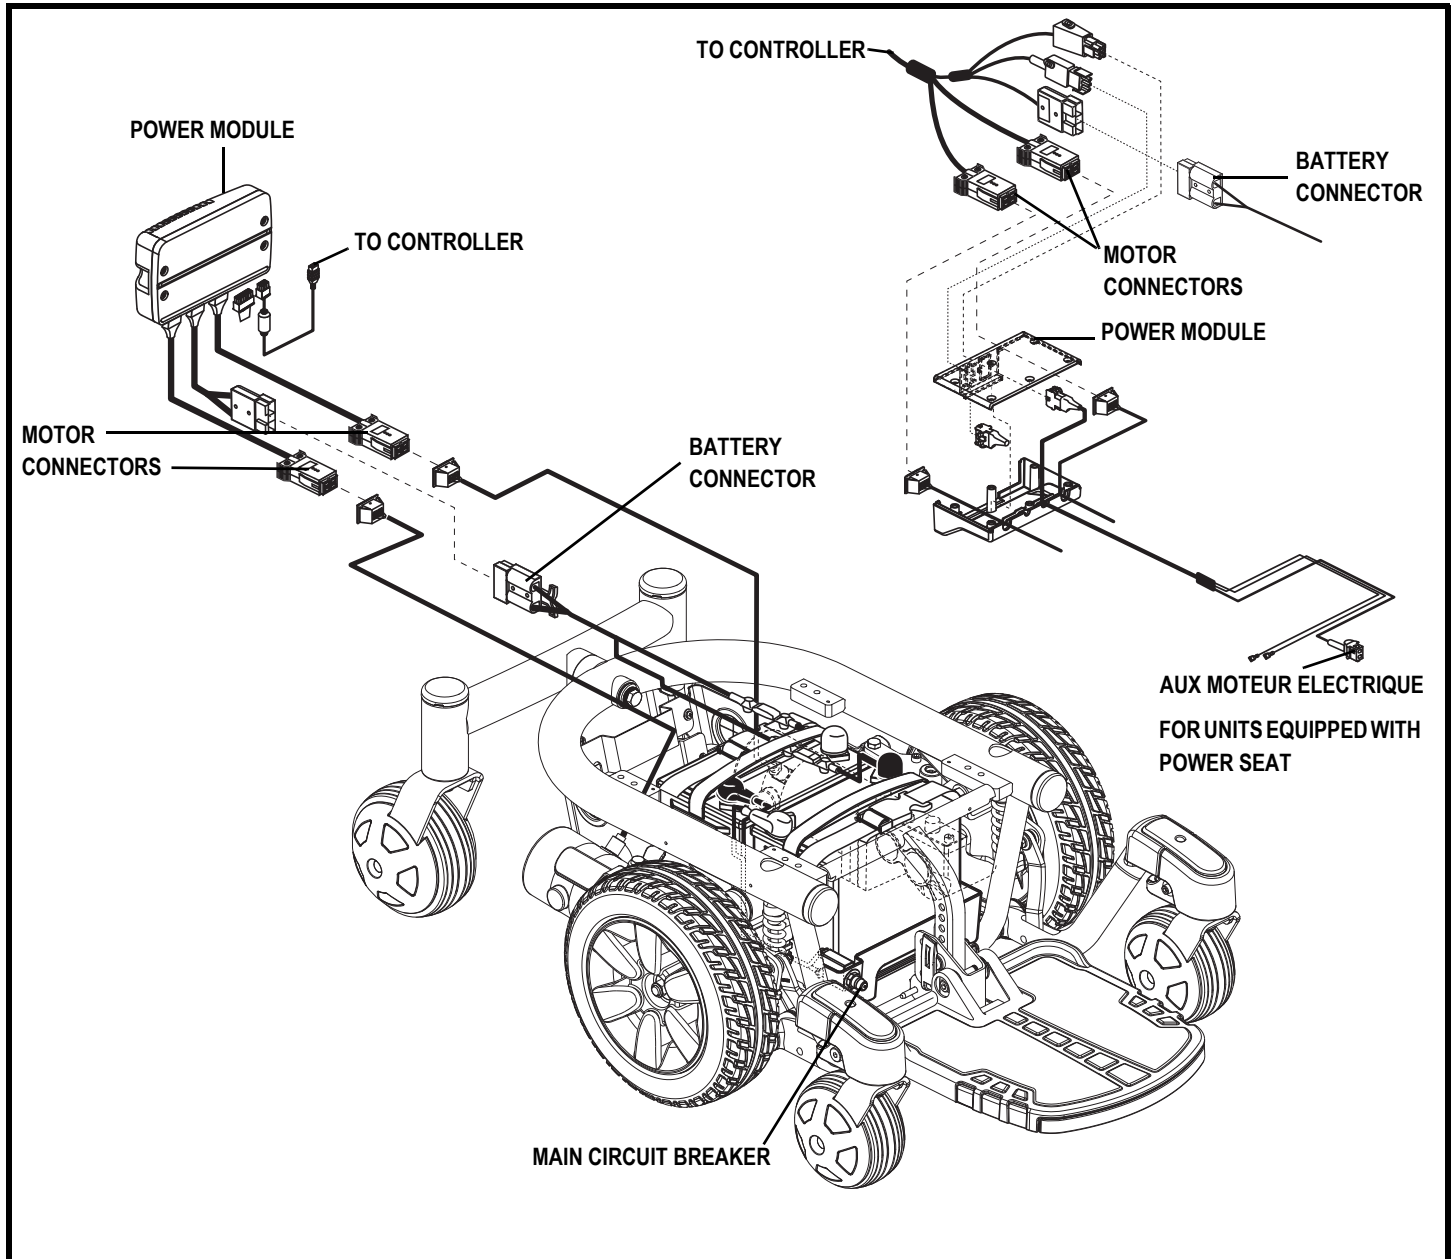

Figure 7. J6 Electrical Components
The electrical components are located inside the power base. The main circuit breaker is located on the front of the battery tray. The controller connector(s) are located inside the power base. See figure 7.
6. Plug the controller connector into the power base. See figure 7.
4. Disconnect the controller connector(s) from the power base. **See figure 7.**